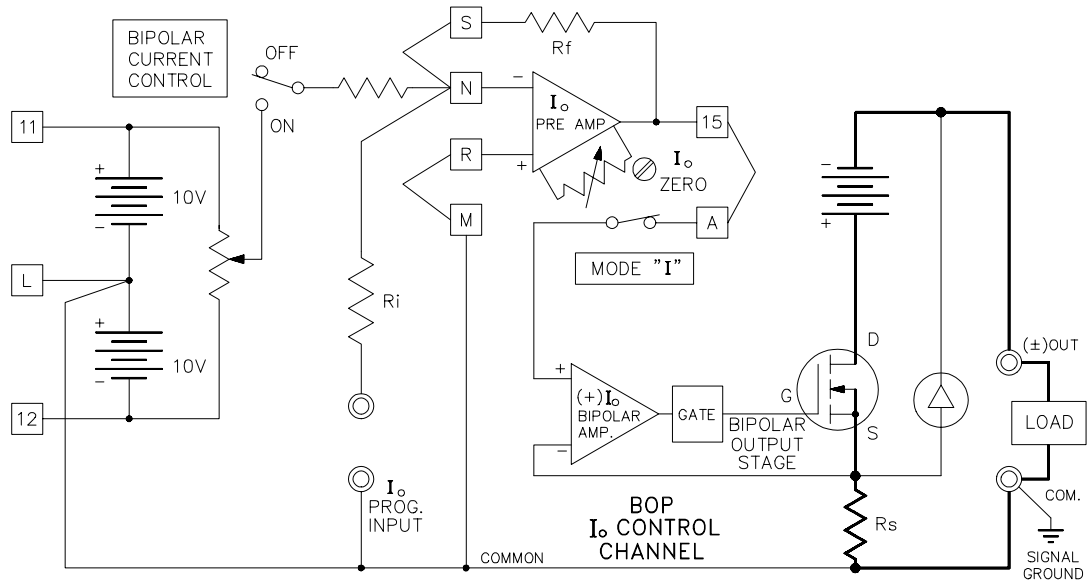

FIGURE 3-2. BOP CURRENT CONTROL CHANNEL
- 2) Current Control Channel (FIG 3-2)